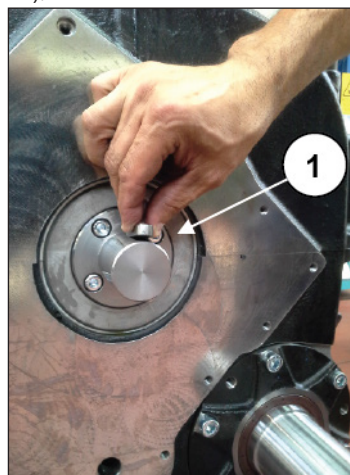

Fig. 124
Insert the key in the keyway on the lube pump drive shaft (pos. ①, Fig. 124).